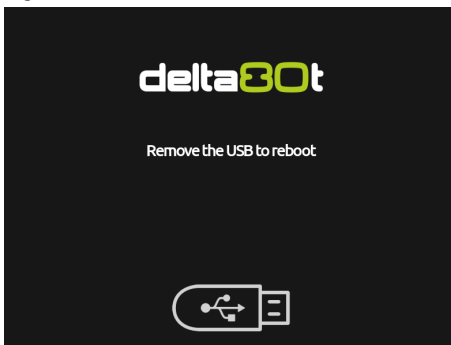
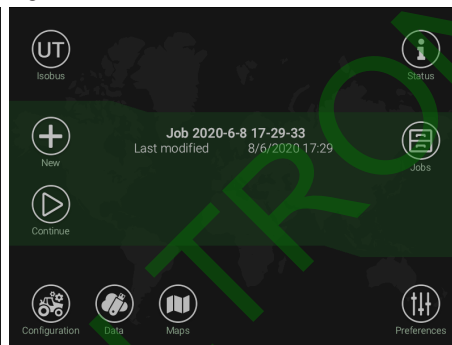

Fig. 170
Fig. 171
- Remove the USB pendrive (Fig. 170): the device will automatically restart and show the Home page (Fig. 171).